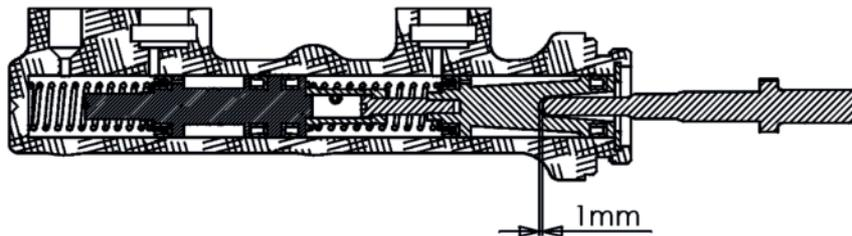

Fig. 3
- Check the Pushrod that goes into the master cylinder from the pedal. It should have an 1/16 inch (1mm) of play before you can feel the rod make contact with the plunger (see Fig.3).
- Das Spiel sollte 1 mm betragen. Siehe Fig.3